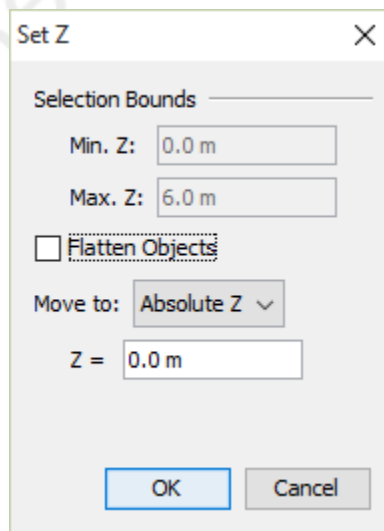

Figure 96. Set Z dialog
Sometimes when importing from 3D CAD models, extracted rooms may not be at the proper height or may have some undesired slope. These issues can be corrected either before or after extracting rooms by using the **Set Z** dialog (Figure 96).
3. This will open the **Set Z** dialog as shown in Figure 96.